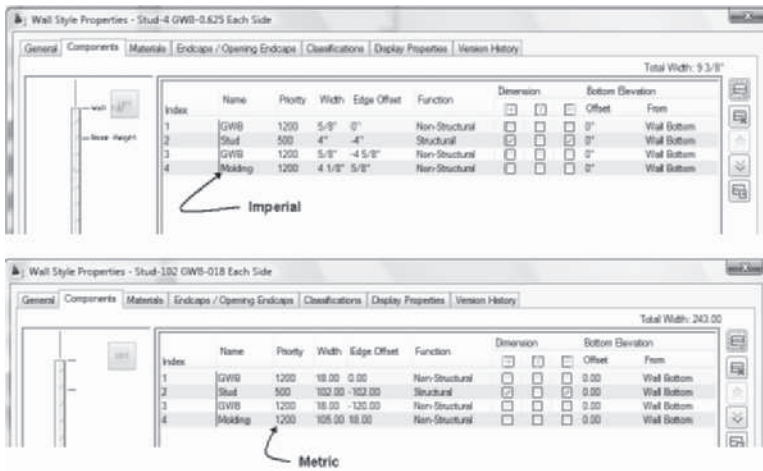

FIGURE 3.75 Imperial and Metric molding component settings for molding
3. In this step, you will create a wall component 4 1/8" [105] wide to represent the molding. Select the wall and choose **Edit Style** from the General panel of the Wall tab. Choose the **Components** tab. Select Index 3 and click the **Add Component** button at the right. Overtyping **Molding** as the name of the new component as shown in Figure 3.75, **Edit Priority** = 1200, **Width** = 4 1/8" [105], **Edge Offset** = 5/8" [18]. Click **OK** to dismiss the **Wall Style Properties** dialog box.